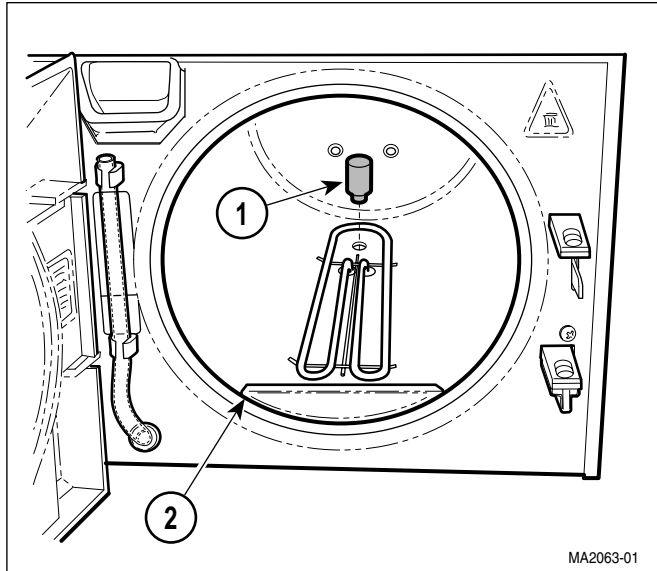

Figure 4-21. Filter Removal / Installation
- (2) Using vise grips, remove filter (1, Figure 4-21) from pressure vessel (2).